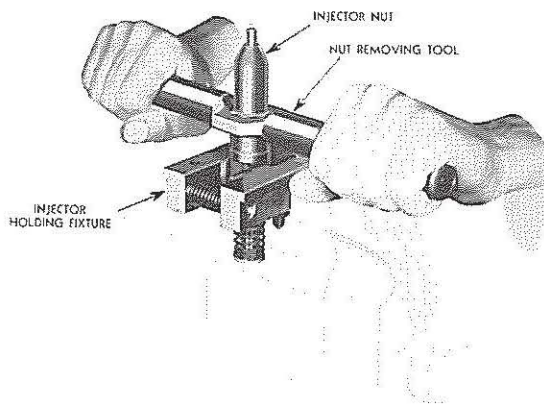

FIG. 9
4. Invert the injector in holding fixture. Clamp in vise and loosen (not remove) nut with special wrench as shown in Fig. 9.